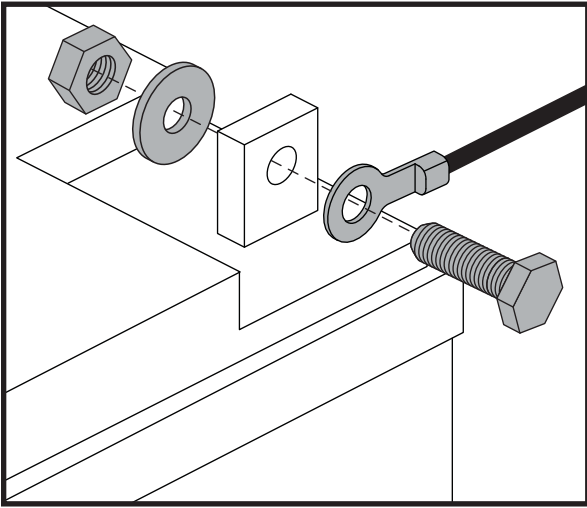

Figure 12. Battery Terminal Hardware
4. Disconnect the battery cables from the battery terminals by sliding back the terminal boots and unscrewing the nut from the bolt. **See figure 12.**